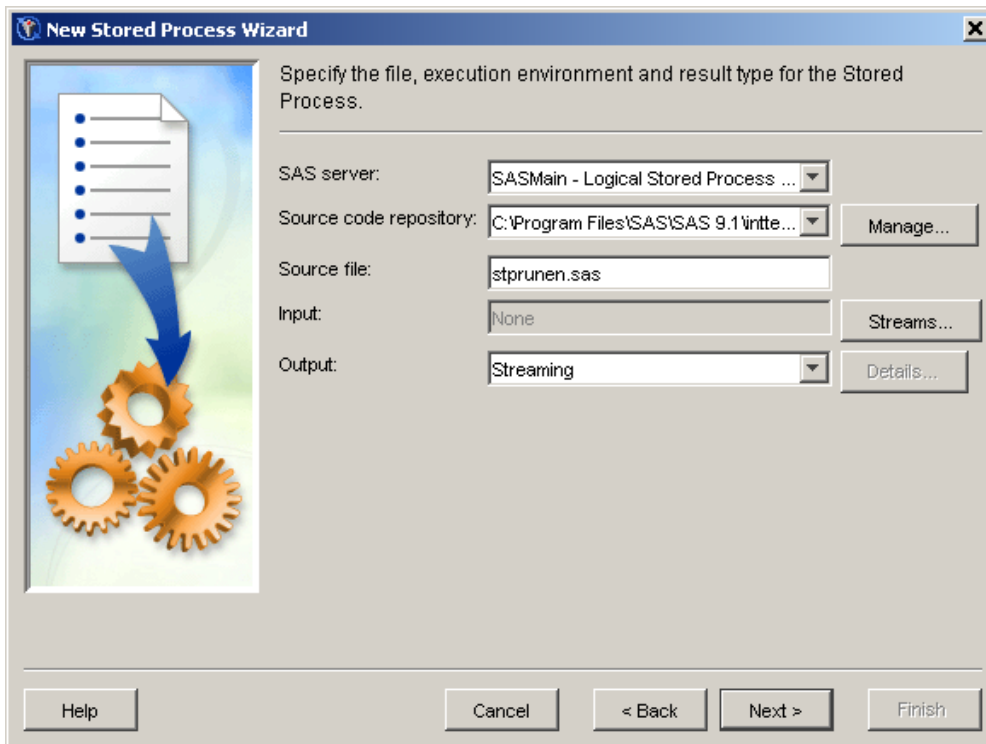

Figure 8. Specifying the server and program information
- b. On the next screen, enter the following information (see figure 8) and then click NEXT. Note that this program is in the source code repository at C:\Program Files\SAS\SAS 9.1\inttech\sample. Stprunen.sas is installed with Integration Technologies and does not need to be moved to this location. You do need to create a LIBNAME to the location of your SCL catalog. You can modify stprunen.sas to have a list of all LIBNAMEs that you will run from this program or you can add the list of LIBNAMEs to your AUTOEXEC file.